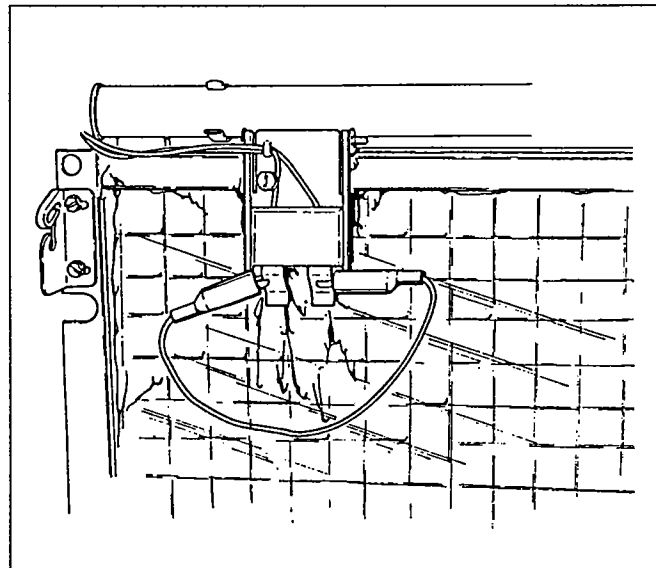

FIGURE 57. JUMPER WIRE CONNECTED TO PROBES
Step 2: Clip the leads of the jumper wire to the ice thickness control probe, Figure 57.